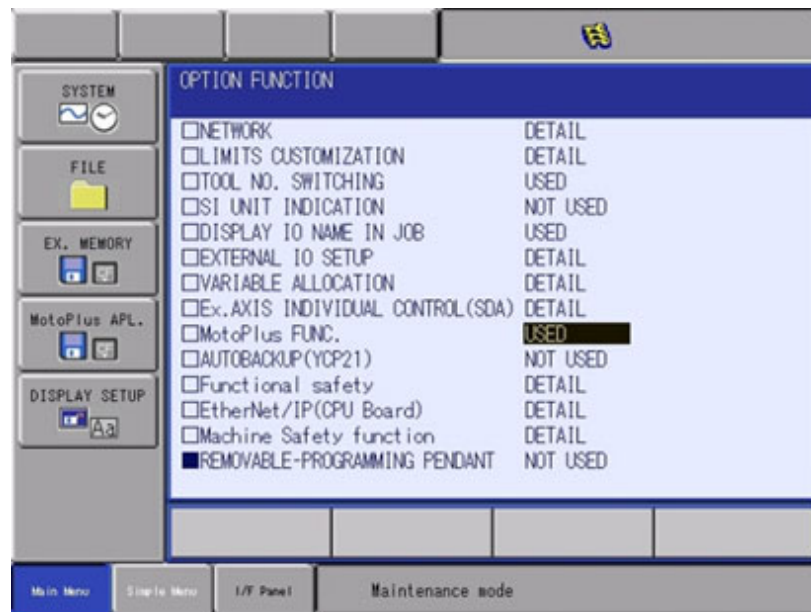

Figure 218: MotoPlus FUNC.
6. Cursor down to "MotoPlus FUNC." and set it to "USED." See Figure 218 (below).